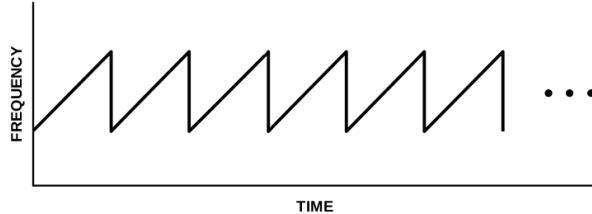
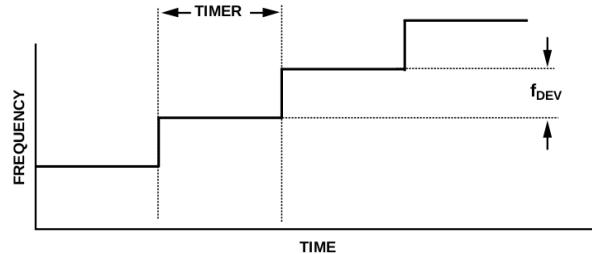

Figure 3.12: Sawtooth ramp.
Figure 3.13: Waveform timing.
The ADF4158 is capable of producing several different waveforms. The one used in this design is a sawtooth ramp in frequency as a function of time, shown in Figure 3.12. There are 3 different parameters that determine the shape of a ramp: (1) frequency deviation (the amount the frequency increases at each time step), (2) timeout interval (the amount of time between each time step) and (3) the number of time steps. This is shown diagrammatically in Figure 3.13. The equations governing these parameters are given in Equation 3.6. The number of steps is set directly in register 6. In our configuration $f_{DEV} = 300\text{kHz}$ and Timer = $0.5\mu\text{s}$, which given that the number of steps is equal to 2000 and the starting frequency is 5.3GHz, the sawtooth will ramp from 5.3GHz to 5.9GHz in 1ms. We also use a delay between bursts of 2ms. Equation 3.7 is used to derive this.